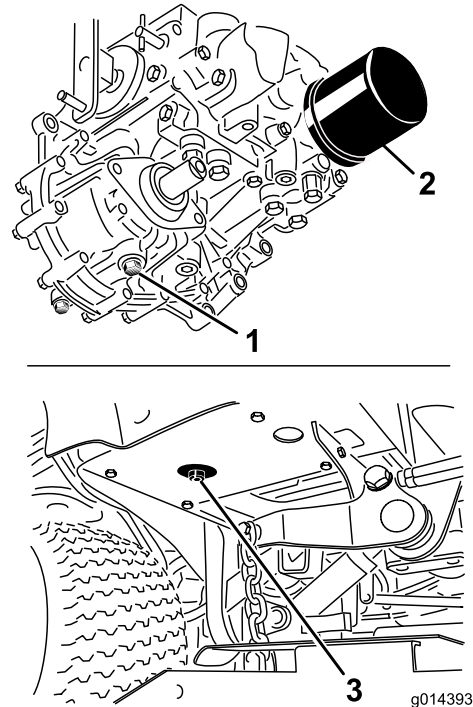

Figure 52
3. Place a large pan under the hydraulic reservoir and transmission case and remove the plugs, draining all of the hydraulic fluid (Figure 52).
4. Clean the area around the hydraulic-fluid filter and remove the filter (Figure 52).